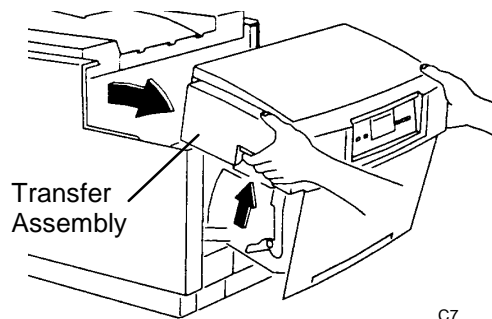

Figure 1. Opening the Transfer Assembly
1. (Figure 1): Grasp the two latches and open the Transfer Assembly.